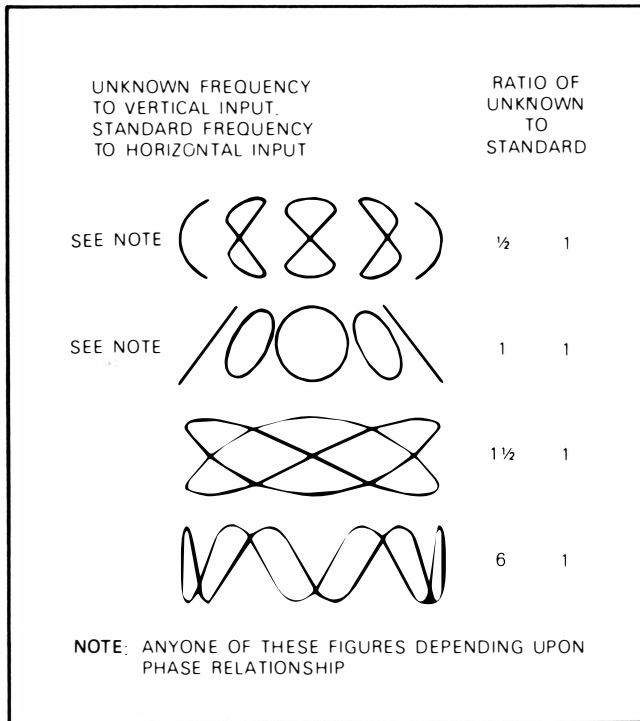

Fig. 32 Lissajous' waveforms used for frequency measurement
4. The resulting pattern called a Lissajous pattern, shows the ratio between the two frequencies (see Fig. 32).